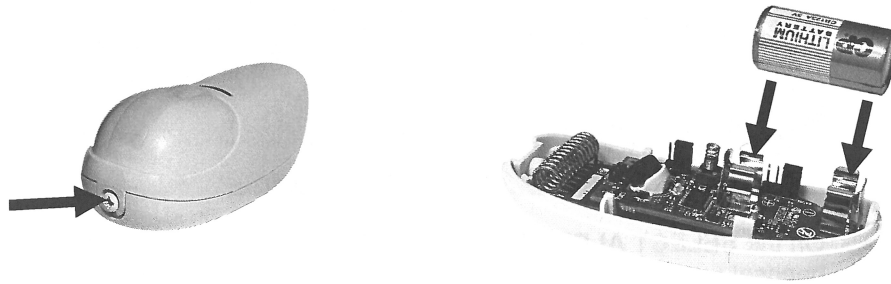

Figure 6. Installing battery in Motion Detector
- Locate the enclosed Lithium battery and install it in the Motion Detector as shown in Figure 6.